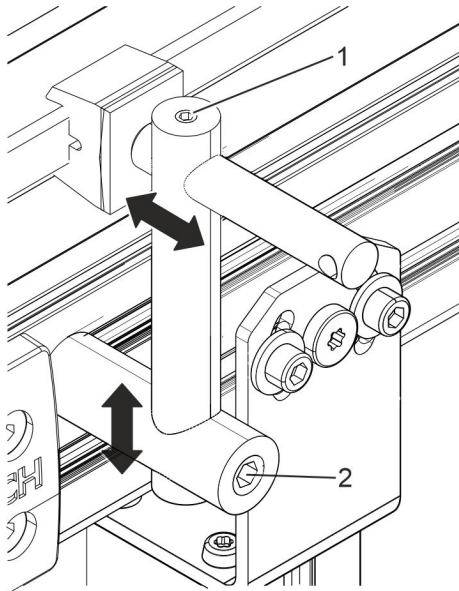

Fig. 24: Adjusting the variable lateral guide
1. ➤ Loosen the grub screws (Fig. 24/2).
3. ➤ Insert and tighten the grub screw (Fig. 24/2).
4. ➤ Loosen the grub screws (Fig. 24/1).
6. ➤ Insert and tighten the grub screw (Fig. 24/1).